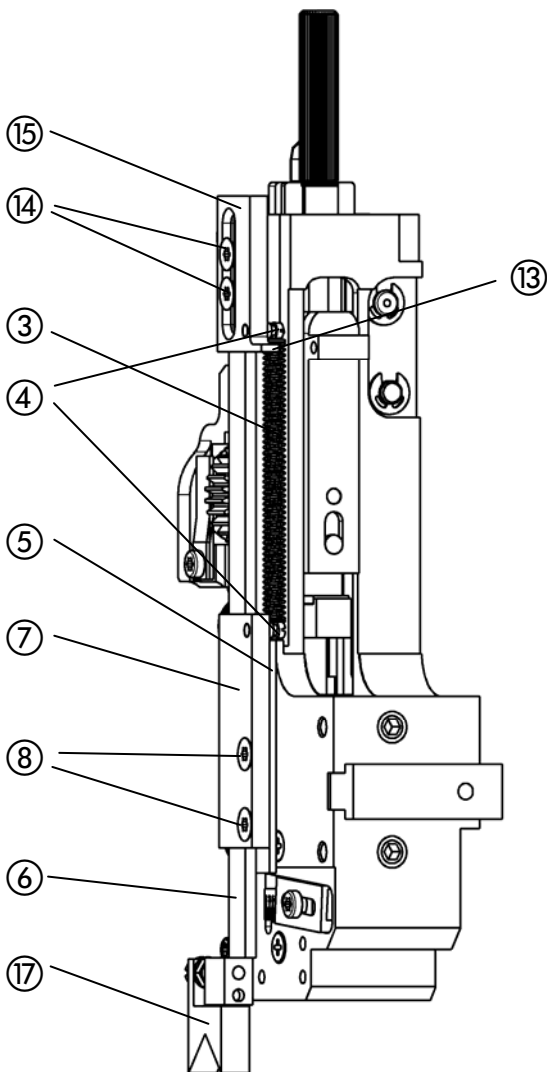

Fig. 18
Fig. 18 a
Fig. 18 b
- Fig. 18 -
- Attach tension spring ③ to the two spring bolts ④.
- Mount distance plate ⑤ on stitching head.
- Insert slotted screw ⑩ laterally into the clincher box mounting.
- Fix slide ⑨ with slot on slotted screw and tighten lightly using the locking nut ⑪.
- Push the complete slide ⑨ against the clincher box.
- Align the V-block of the slide to the center of the clincher box with the help of the M5 setscrew ⑫ .
- Tighten the locking nut ⑪.
- Fig. 18, Fig. 18a, Fig. 18b -